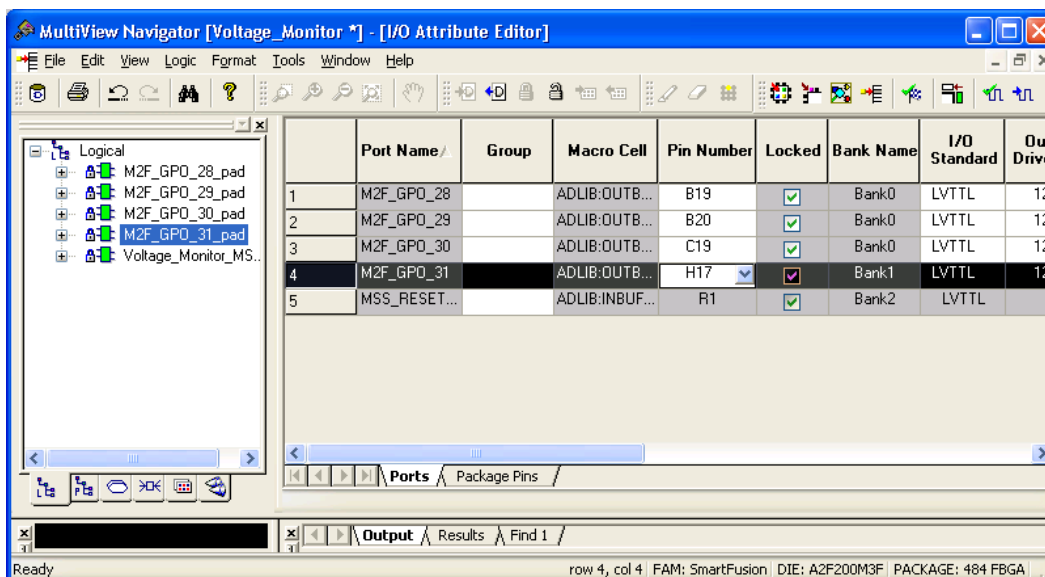

Figure 60 · MultiView Navigator GUI
2. Make the following pin assignments in **MultiView Navigator** window as shown in Figure 60 :